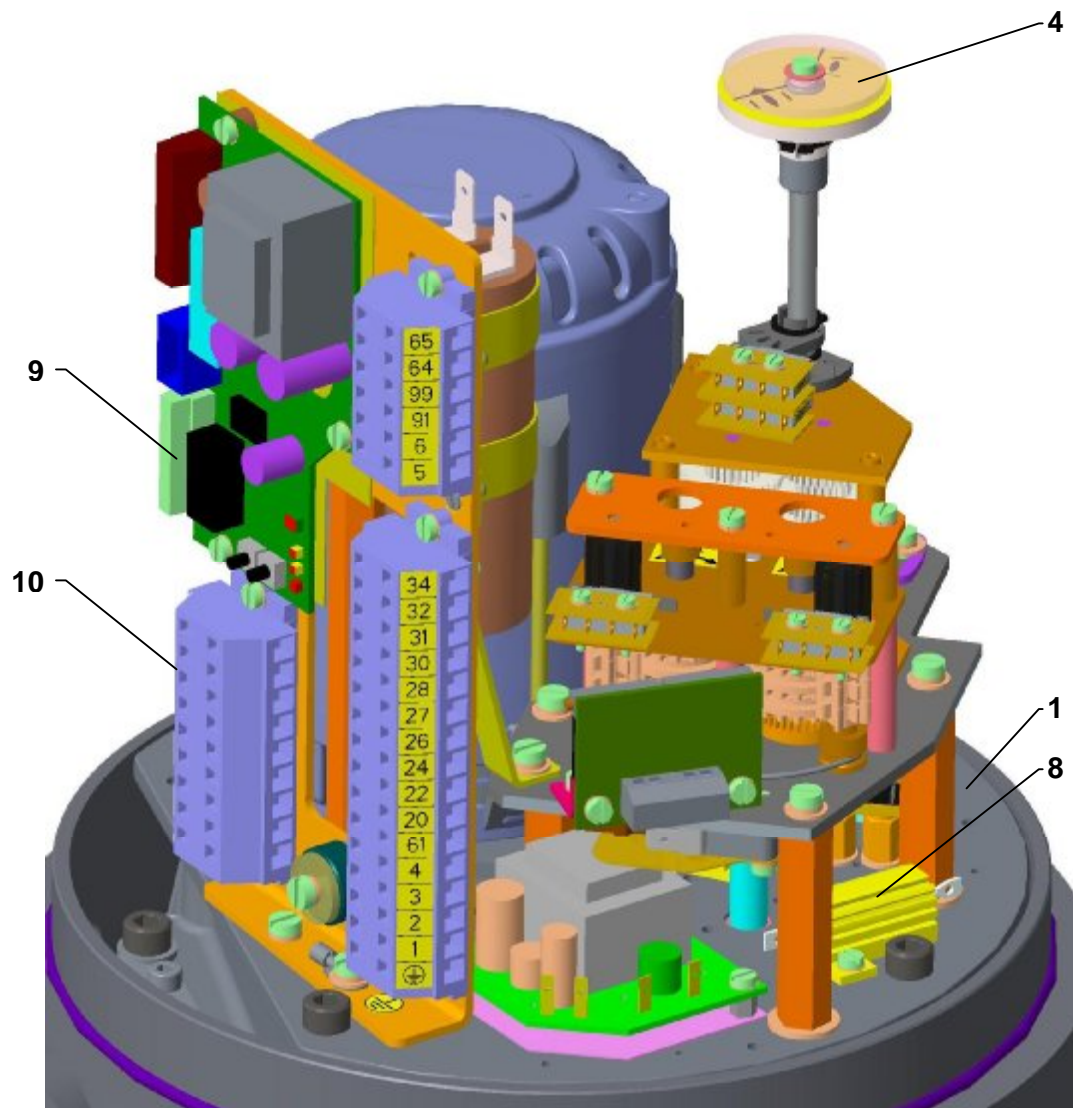

Fig.1
The **control part (Fig. 1, 1a )** is placed on a control board (1) consisting of:
- electric motor (2) (at single-phase version with capacitor)
- torque unit (5) (controlled with a worm axial shift)
- position-signaling unit (3) with a position transmitter (6) and with a mechanical local position indicator (4)
- space heater (8) with thermal switch (7)
- electronic module (contoller) (9)
- electrical connection through terminal boxes (10), located in the control area and cable glands Ex d version with direct entry with compound filling around cable cores
- relays of torque switch S1 or S2 (ReS11, ReS12) (12) – customized version